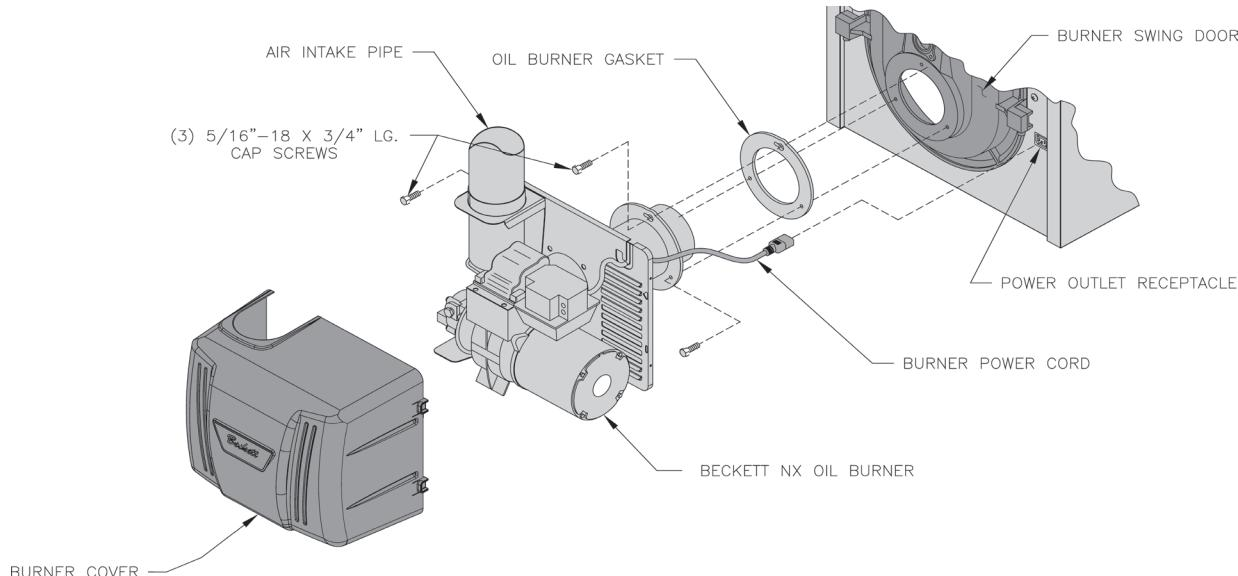

Figure 22: Oil Burner Installation (Beckett shown)
4. Remove burner cover. Loosen two screws securing outside air duct bracket to burner cover mounting plate. See Figure 22.
7. Secure the pipe to collar with at least (3) sheet metal screws (installer provided) evenly spaced around the collar.
10. Secure the tee to the pipe with at least (3) sheet metal screws (installer provided) evenly spaced.